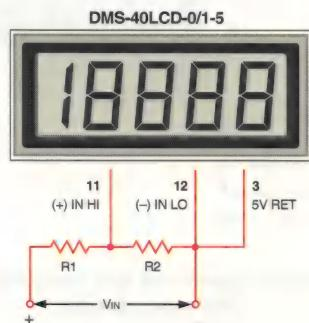

Figure 4. Input Attenuation Circuit
3. Engineering Scaling: For measuring voltages greater than the full scale input range of a given meter, the input signal must be attenuated. A simple voltage divider (similar to that shown in Figure 4) will scale the input to within the range of the selected meter. R1 and R2 should be precision, $\pm 1\%$, metal film resistors with absolute TCR's less than 50ppm/ $^{\circ}\text{C}$. See Ap Note 4 for more information on engineering scaling.